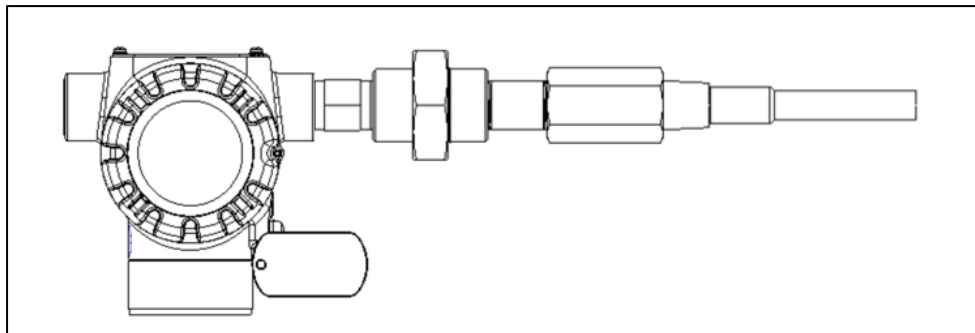

Figure 6: Transmitter with Threaded Thermowell
- 2) Threaded assembly with thermowell and extension (Figure 6)